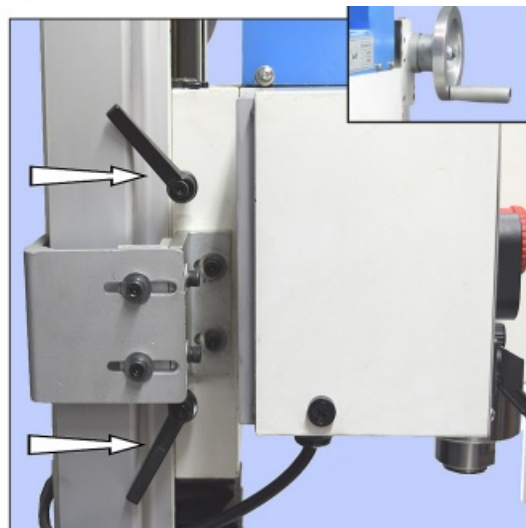

Figure 3-6 Z-axis locks
The Z-axis crank, Figure 3-6 inset, is at the top right of the column. If the mill has a 3-axis DRO the headstock position is displayed at all times. If not, the headstock can be positioned approximately by reference to a 12" scale on the column. For more precise positioning the crank hub has a graduated dial with 0.001" divisions (be aware of backlash in the bevel gears controlling the Z-axis leadscrew, and also in the leadscrew nut). When the headstock is at the desired height, lock it in place.
For milling operations calling for precise, repeatable control of tool depth, tighten knob (4) to engage hub (1) with the internal taper on sleeve (3). Tighten the Z-axis locks, Figure 3-6.